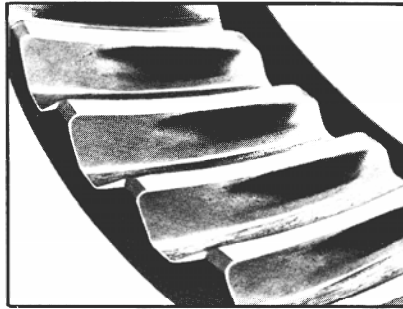

Figure 116A
- B. To correct a high contact pattern, **Figure 116A or B** decrease the thickness of the shim pack under the bearing cage. When you decrease the thickness of the shim pack, the drive pinion will move toward the ring gear. **Figure 119.**